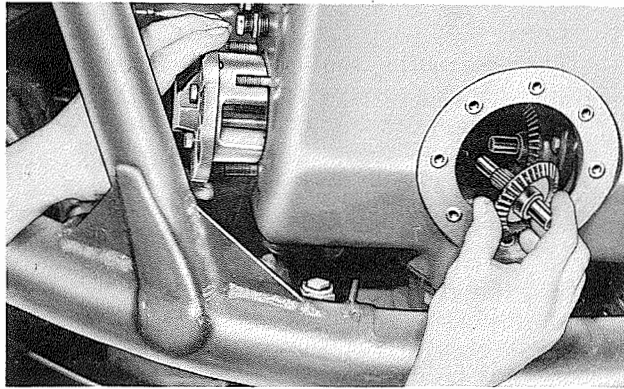

Figure 7-38. Positioning Drive Gear through Hand Hole in Rear Oil Pump and Sump Housing
c. Install the gear housing approximately half way into the bore of the pump and sump body. Position the drive gear assembly in the end of the gear housing drive gear shaft, installing it through the hole in the bottom of the pump and sump body. See figure 7-38. Complete the installation of the gear housing over the attaching studs.